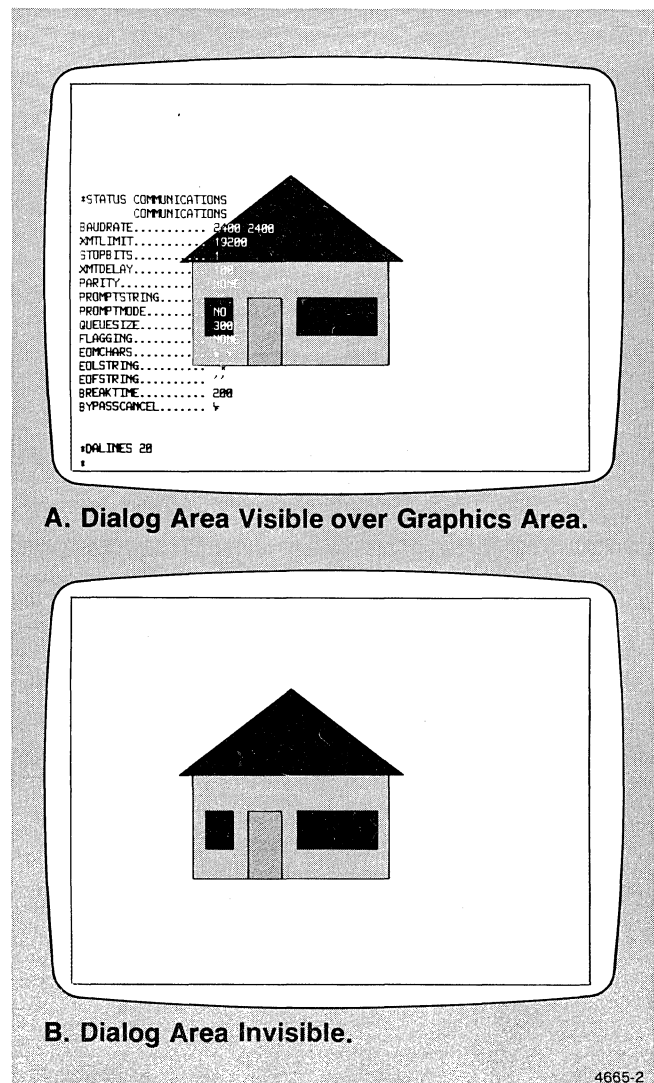

Figure 1-3. The Graphics and Dialog Areas.
- A separate dialog plane is used to display your conversations with the terminal or the host computer. The dialog text can be displayed "over" the graphics, allowing your graphics to be visible behind the text. Or, by toggling the DIALOG key, you can make the dialog text invisible, to view only the graphics. (Figure 1-3 is a black and white representation of this feature.)
Using graphics commands, either stored locally on the terminal or from a host software program, the terminal can create and modify color graphics images in the *graphics area*. (The *graphics area* refers to the area on the screen where the terminal displays graphics pictures, as opposed to the *dialog area*, which displays your conversations with the terminal and the host. See Figure 1-3.)